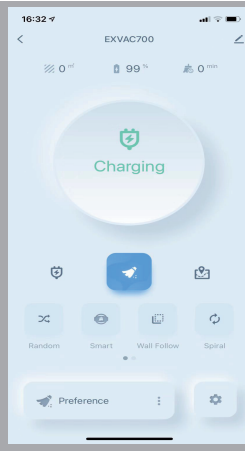
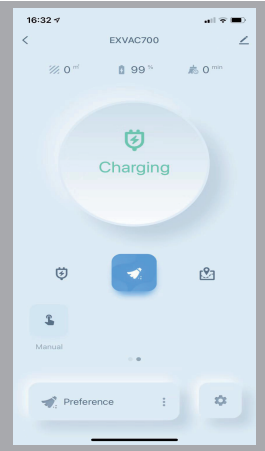

Fig.16
Fig.17
connection interface as Fig.13 and Fig.14, after connection done, tap the main interface "Mamibot EXVAC700" as Figt.15, then enter into Fig.16 and Fig.17.
- On APP, users can check the working status, the cleaning time, the cleaned area, the battery status, etc (Fig.16).
- Users can start the smart cleaning mode, random cleaning mode, edge cleaning mode or spiral cleaning mode (Fig.16).
- Users can control the robot manually via manual button (Fig.17).